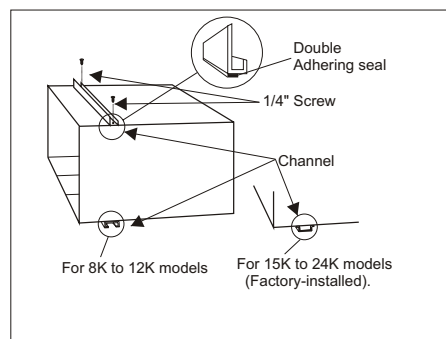

Fig. 3
A. "L" Shaped Top Channel: Stick the double adhering seal to the "L" shaped top channel, and then install the "L" shaped top channel to the cabinet as shown in (Fig. 3) using (5) 1/4" screws.
B. "n" Shaped Bottom Channel installed as shown in (Fig. 3) using (4) 1/4" screws.